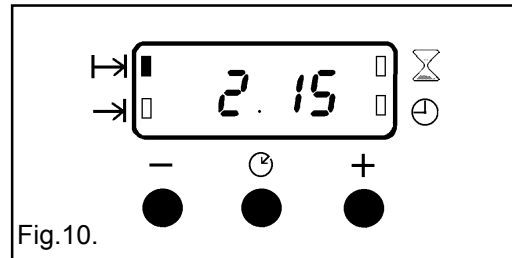

Fig.10.
- iii) To set the length of cooking time, press the Selector Control button until the 'Cook Time' (T→) indicator is illuminated. Press the increase control (+) until the required length of cooking time is displayed, e.g. 2 hrs 15 mins as Fig. 10. Depress the decrease control (-) if necessary.